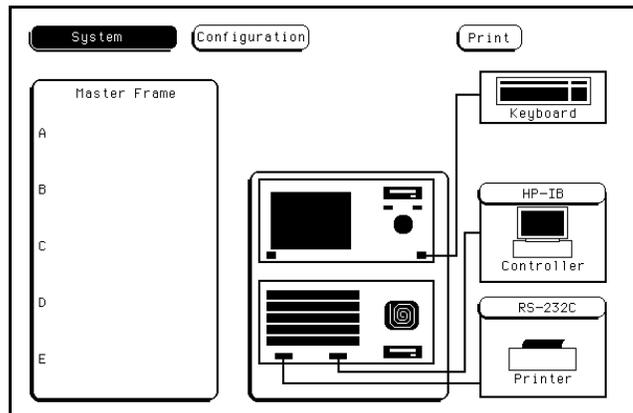

Figure 6-3. System Configuration
1. With the operating system disk in one of the disk drives, apply power to the instrument to obtain the System Configuration menu. See figure 6-3.